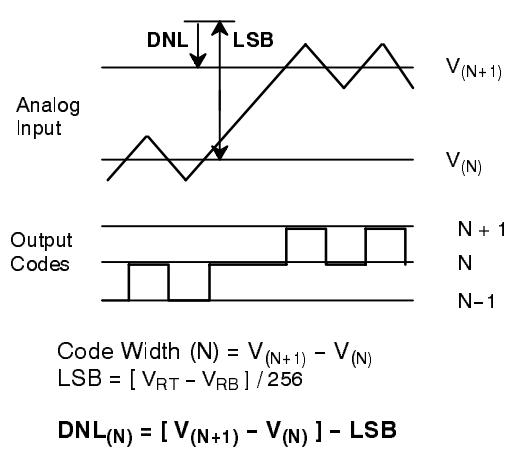
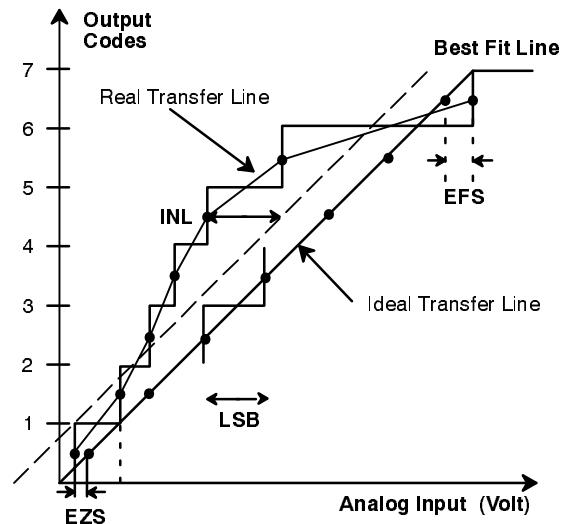

Figure 2. DNL Measurement
Figure 3. INL Error Calculation
- ¹ Tester measures code transitions by dithering the voltage of the analog input (V_{IN}). The difference between the measured and the ideal code width ($V_{REF}/256$) is the DNL error (Figure 2.). The INL error is the maximum distance (in LSBs) from the best fit line to any transition voltage (Figure 3.). Accuracy is a function of the sampling rate (FS).